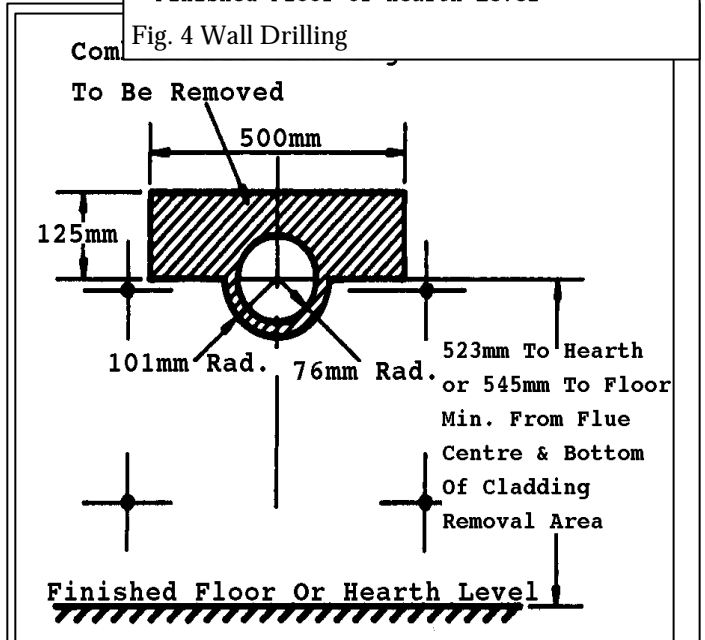

Fig.5 Combustible Cladding Removal
**5.10** Remove any combustible wall cladding material from the area shown in figure 5.